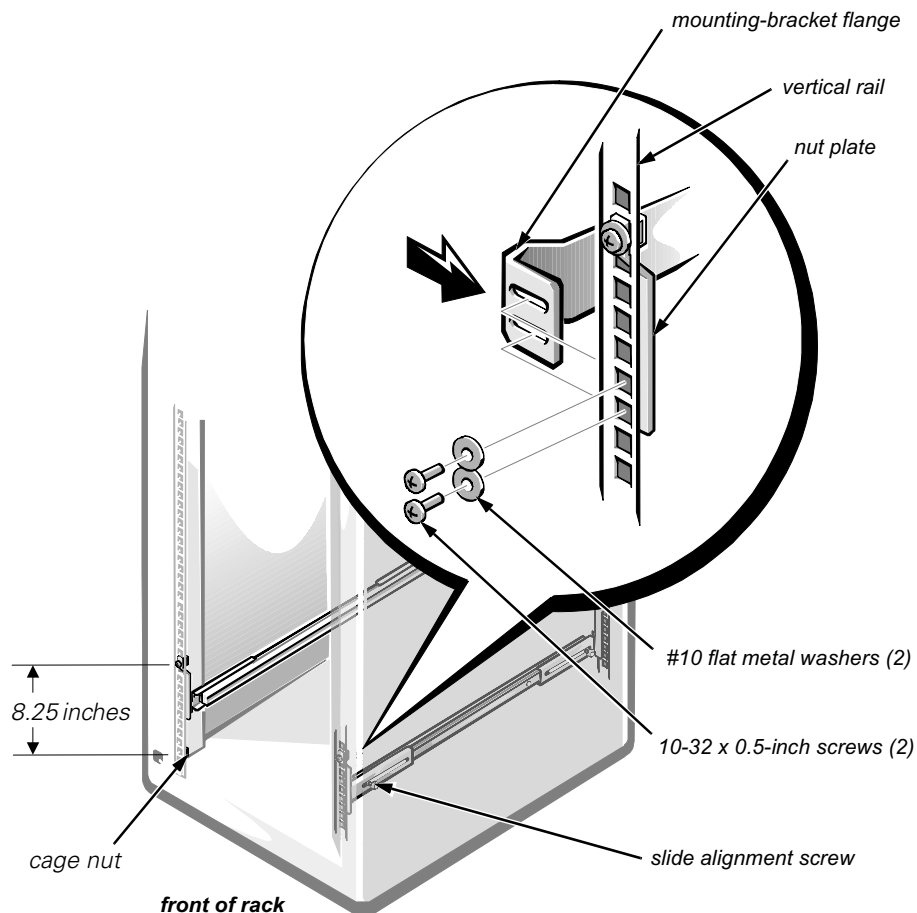

Figure 6. Installing the Slide Assemblies
3. **Using a Phillips screwdriver, slightly loosen the slide alignment screw that holds the front slide-mounting bracket to the exterior slide (see Figure 6).**
- a. Insert the slide's mounting-bracket flange between the nut plate and the rack's vertical rail as shown in Figure 6.
- b. Position the mounting bracket at the back of the slide assembly so that its two slots are aligned with the two lowest holes in the nut plate (see Figure 6). Secure the mounting bracket with two 10-32 x 0.5-inch Phillips-head screws and two #10 flat metal washers. Do *not* completely tighten the two mounting screws until you install the computer and verify that the width between the slide assemblies is correct.
- 6. Install one cage nut in each front vertical rail for the rack-adapter thumbscrews (see Figure 6).**